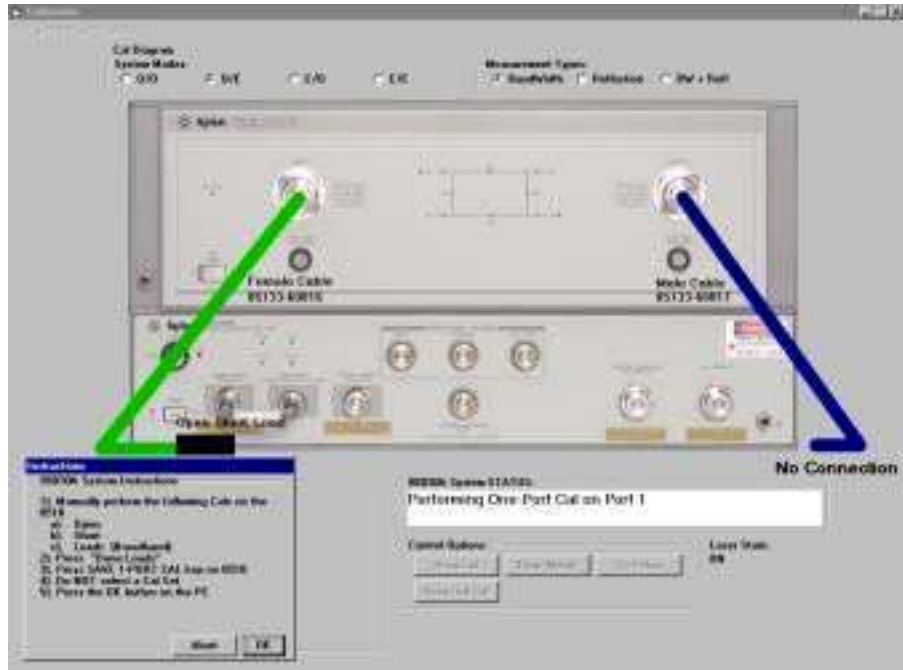

Figure 3-2.
- 16 Repeat Step 7 through Step 15 by attaching the Open, Short, and Load to the 8517B Port 2 instead of Port 1. Refer to Figure 3-2.